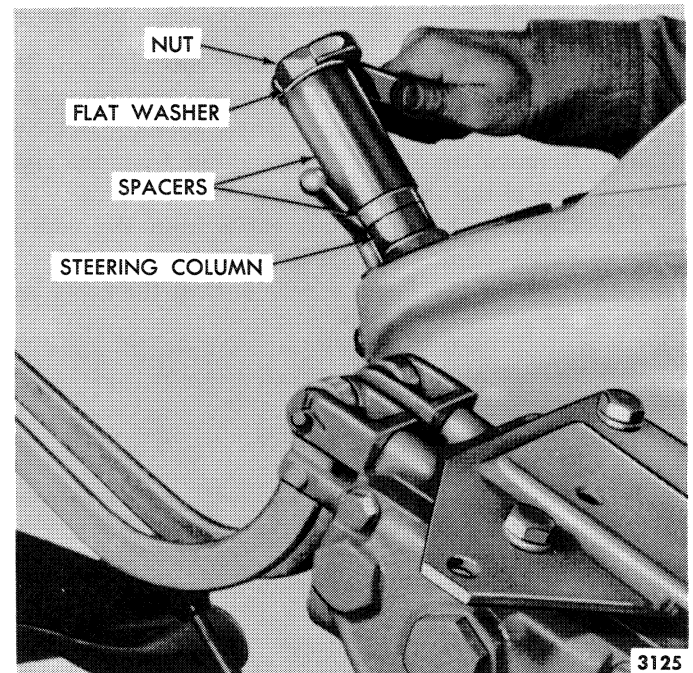

Figure 22—Drawing Shaft Spacer Into Housing
- c. Install a suitable spacer, flat washer, and nut at the top of the rod as shown in Figure 22, and draw the shaft spacer into its bore by tightening the nut on top of the rod. Remove the tool and make sure that the bottom face of the spacer is flush with its bore.